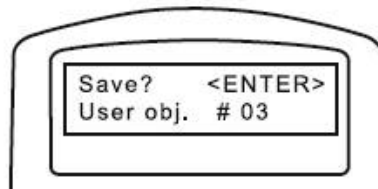

Fig. 45
7. Press **ENTER** to save your object. The hand control will display a User Object number as shown in **Fig. 45**. Use the scroll keys to change to the number you wish to represent your new user object and press **ENTER**.